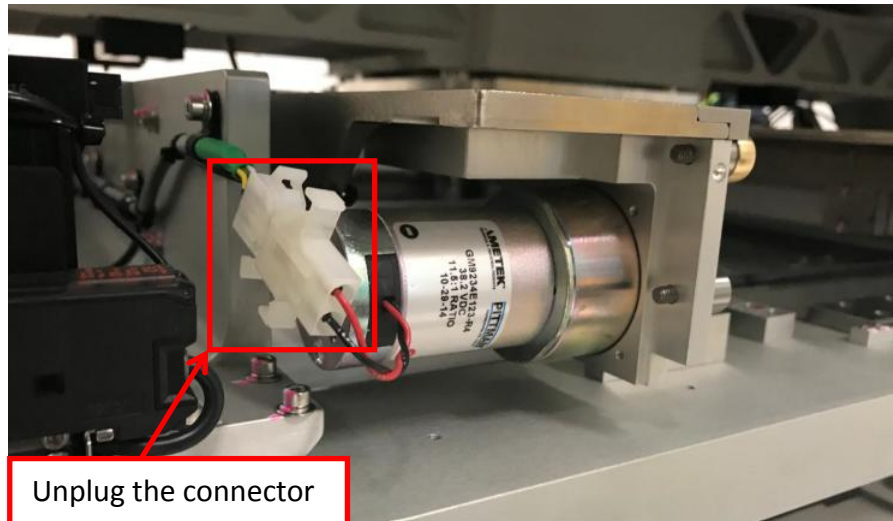

Figure 1 Fix Rail Conveyor Motor Connector
2. Unplug Fix Rail Conveyor Motor Connector as shown in Figure 1
10. Connect the Conveyor Motor Connector (Refer to Figure 1)